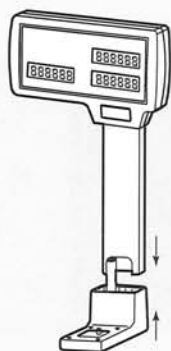

Fig. 1
1. Insert the post pipe into a post bracket as Fig. 1